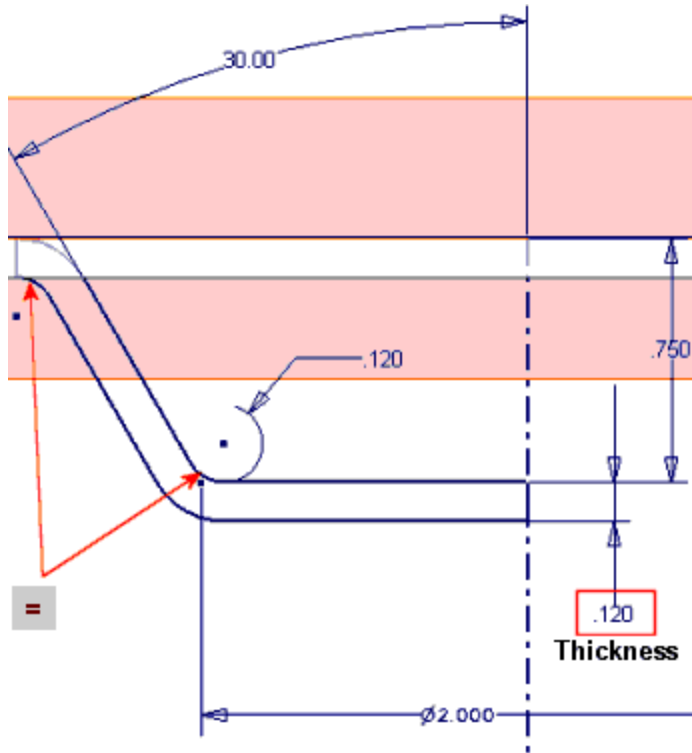

Figure 15: Sketch constraints and dimensions.
13. Complete the sketch by adding the constraints and dimensions shown in Figure 15. Use the List Parameters technique to select the Thickness parameter for the highlighted dimension.